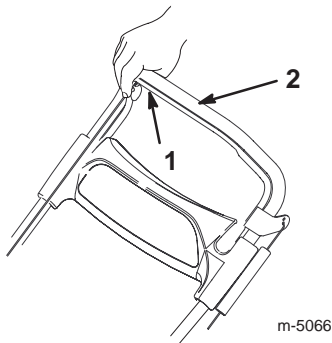

Figure 11
3. Hold the control bar against the right side of the handle as shown in Figure 11.